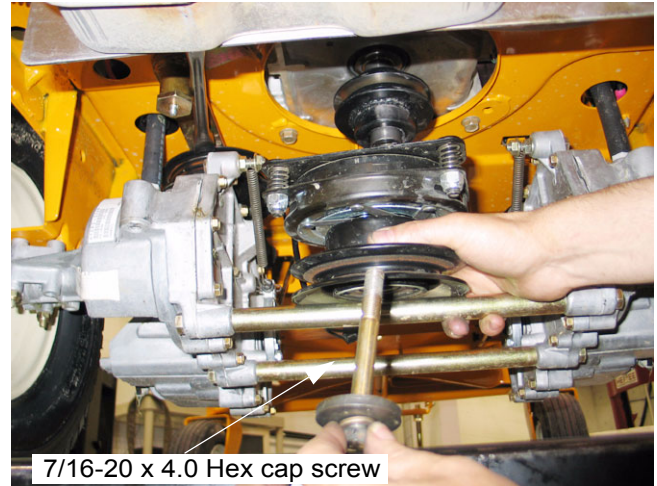

Figure 5.2
- 5.2. Using a 9/16" socket and an impact wrench, remove the clutch bolt. See Figure 5.2.